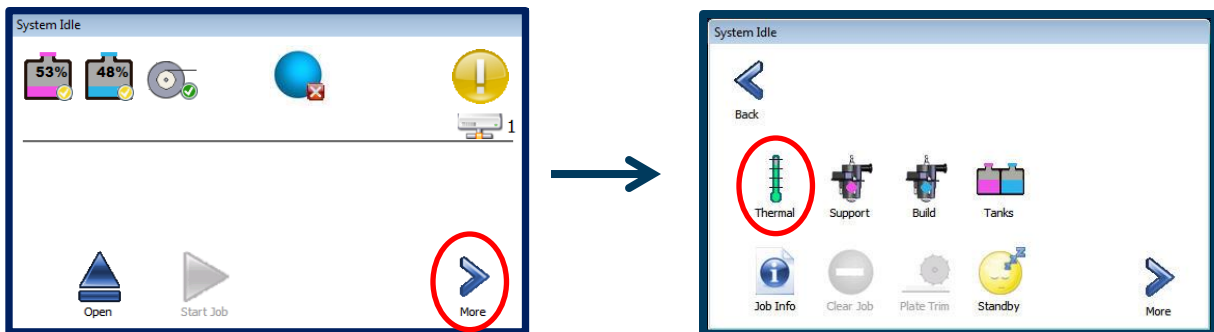

Figure 2
a. To change temperature setpoints, navigate to the **Thermal Screen** and press to open (Figure 2)*.